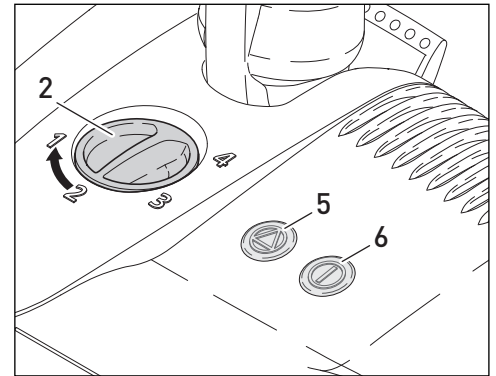

Figure 1
## Operating the Power Head - Figures 1 & 2
**B.** To clean delicate or hard floor surfaces with straight suction only, the power head is equipped with an on/off switch (#6, figure 1)\*. When this switch is used to turn off the brush roller, the green light will change to yellow, indicating to the user that the brush roller is not turning. Pushing the button again will turn on the brush roller and the light will turn green.
## The Brush Height Adjustment Feature - Figure 1
## Indicator Lights - Figures 1, 2 & 3\*
| Green On/Off Light*:(#6, figure 1)     | Brush is on and spinning.   |
| Yellow On/Off Light*:(#6, figure 1)    | The brush roller has been switched off and the vacuum is operating with straight suction only.  |
| Red Brush-warning Light:(#5, figure 1) | The brush is not fully engaged in the carpet. The height adjustment should be lowered. If the height adjustment is at its lowest setting, the brush is worn and needs to be replaced. |
| Red Brush-warning Light Flashing:(#5, figure 1) | The brush is blocked. Turn off the power head, disconnect it from the power source, and then remove the blockage (see page 7). |